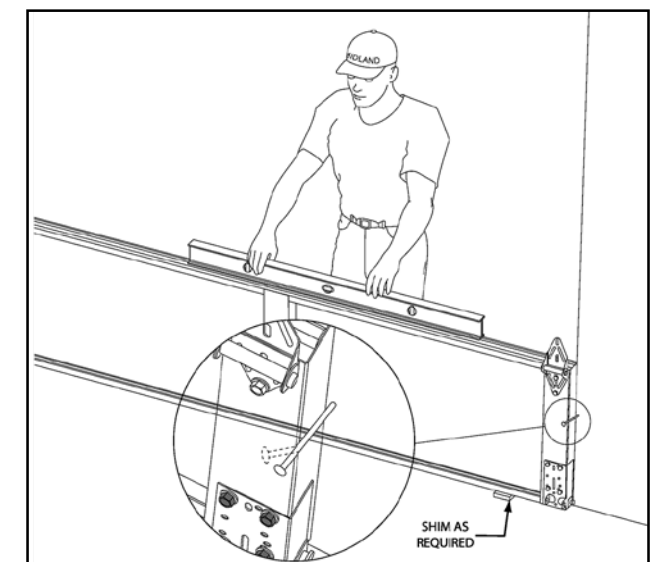

Figure 8
**BOTTOM SECTION** Position bottom section inside opening and against door stops. The bottom section **MUST** be leveled by temporarily shimming low side. Once the bottom section is level and centered in the opening, secure it in place by driving a nail slightly into the jamb and bending it over section. Do this on each end. (Fig. 8).